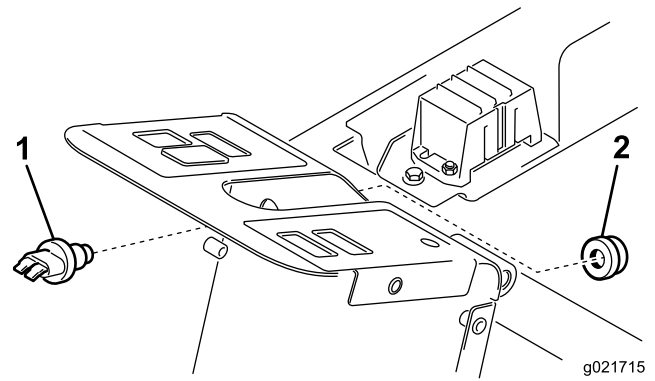

Figure 6
2. Insert the horn switch through the hole in the steering column tower (Figure 6).
3. Secure the horn switch to the tower by threading on the rubber horn button (Figure 6).